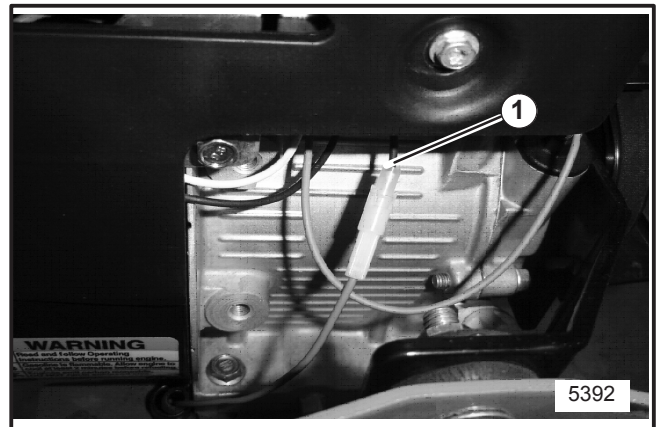

FIGURE 8
12. Connect red wire male connector from convoluted tubing harness to black female connector on front of engine. See Figure 8 and 9.